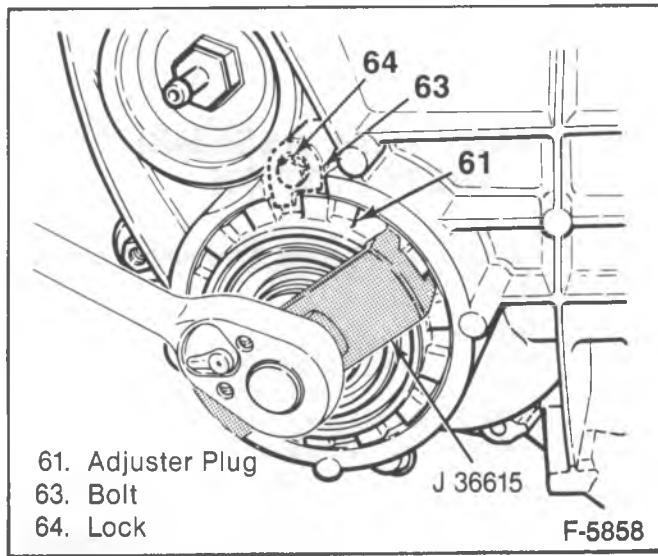

Figure 29—Turning the Adjuster Plug (K35 Models)
- K35 models: Use J 36599 for the right sleeve (32). Use J 36615 for the adjuster plug (figure 29).
- K35 models: Use J 36615 (figure 29).
- Use J 36615 (K35 models) (figure 29).